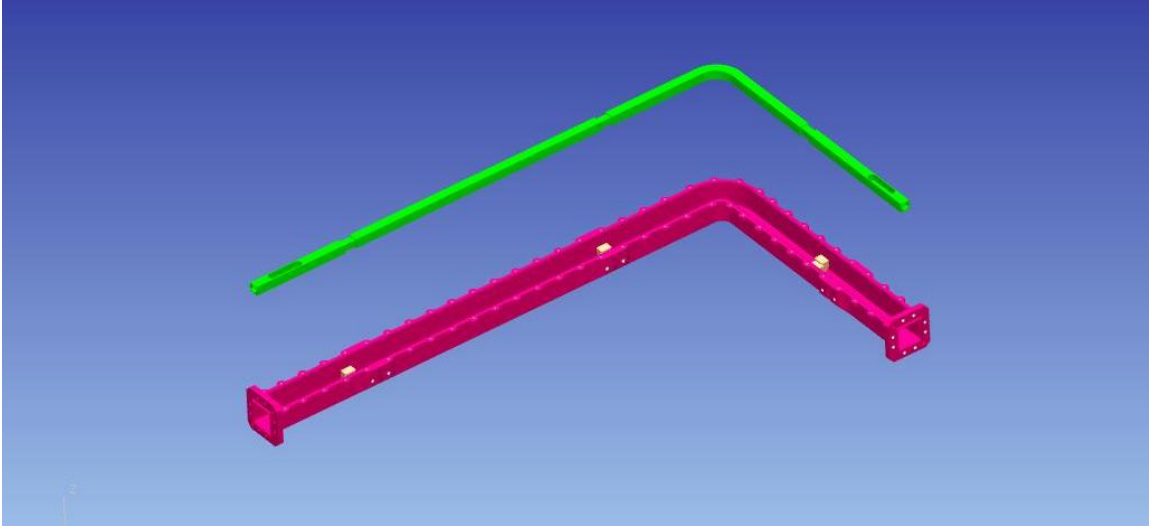

Figure 5: Installation of Inner Conductor
5. Install inner conductor onto the bottom Boron Nitride spacers previously installed (Figure 5).
4. Install inner conductor onto the bottom Boron Nitride spacers previously installed (Figure 5).